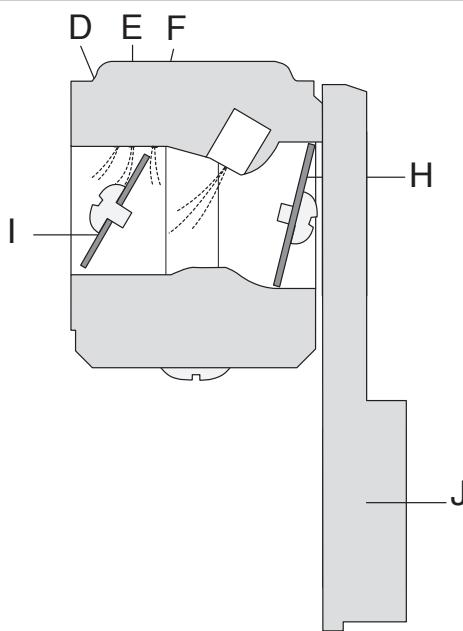

Fig. 4
In the cold start mode (fig. 4) the choke valve (H) is fully closed. This increases the vacuum in the carburettor so that fuel is sucked more easily from all the diffuser jets (D, E and F). The throttle valve (I) is partly open. Extra air inlet (J) is closed.